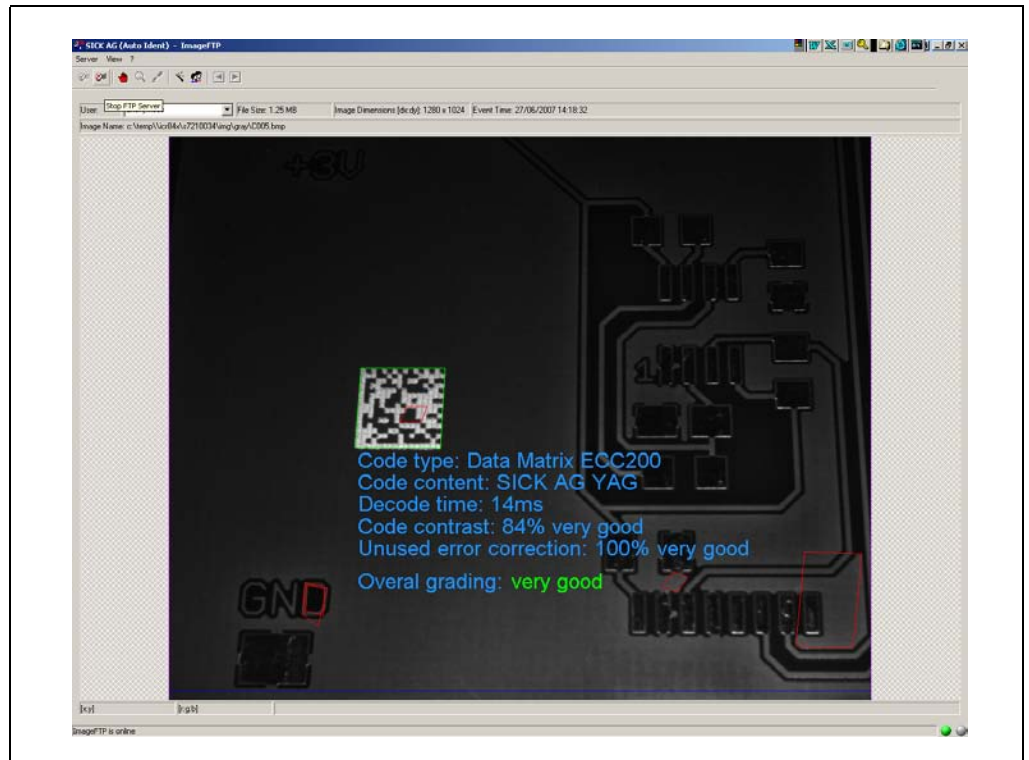

Fig. 6-9: ImageFTP: Image output
4. In ImageFTP, check the recorded and transferred image. The Data Matrix code must clearly be visible with sufficient sharpness and be undistorted (see sample in Fig. 6-9). ImageFTP also displays the derived reading diagnosis data in the image (if enabled for visualisation as set in default setting).